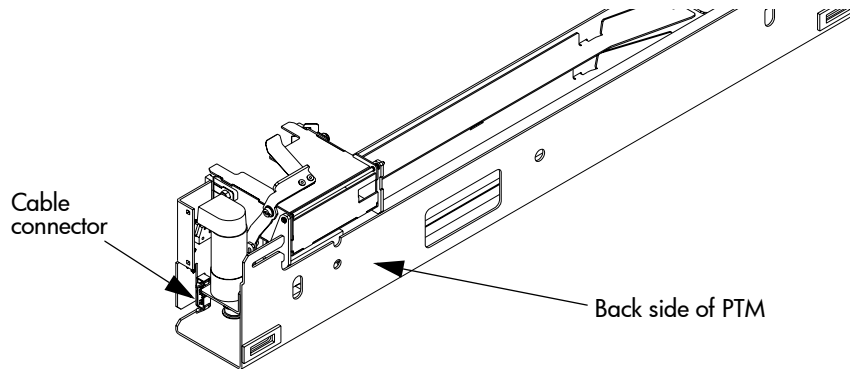

Figure 14: PTM cable connection
4. Connect the PTM cable to the PTM (see Figure 14).
Note: In Figure 14, the PTM is shown outside of the library for clarify.